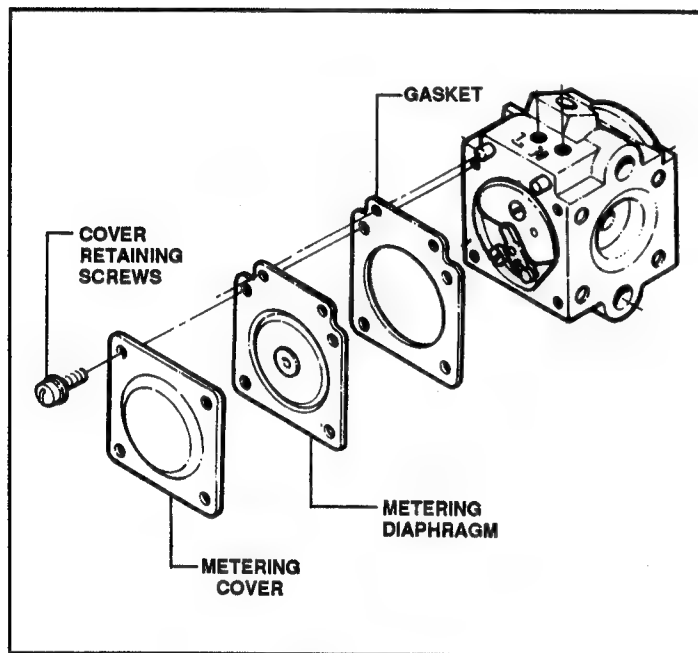

FIGURE 24
1. Installed on all Trimmers that accept Brush/Grass blades, the Walbro governed carburetor governs engine speed to approximately 6500 R.P.M. The "Hunting" characteristics or raising and lowering of engine R.P.M. is normal with this carburetor. No other type of carburetor should be substituted. Inspect the metering side for dry rot or torn gaskets/diaphragms. See Figure 24.